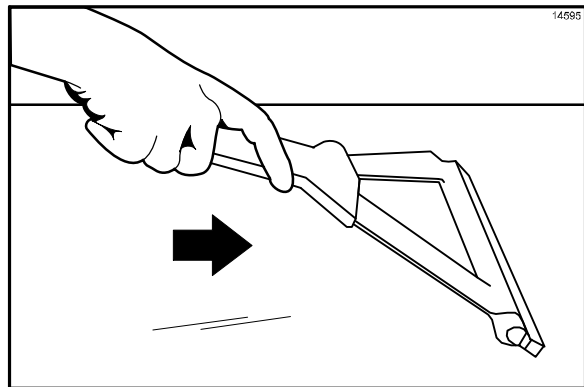

Figure 33
- Using the wiper squeegee**, push the grease at the rear of the lower grill plate into the grease can. **Do not** use the grill scraper for this step. (See Figure 33.)